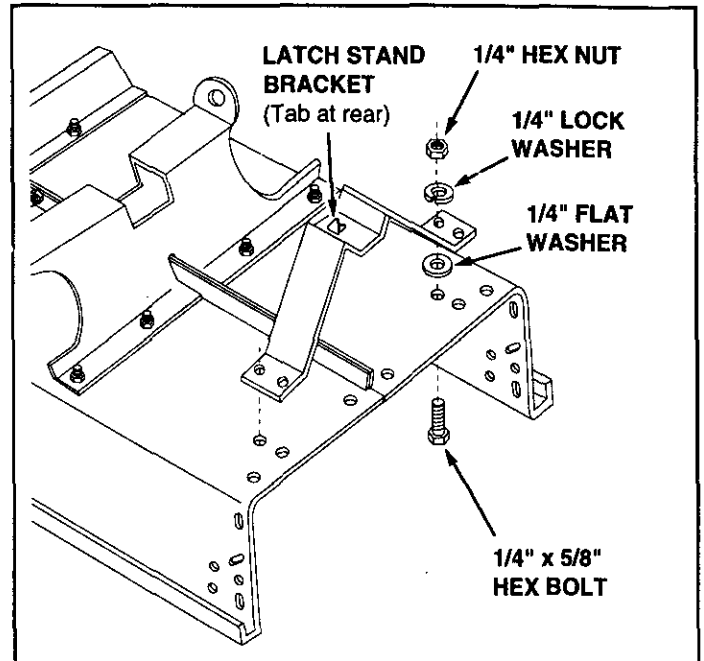

FIGURE 6
- Align the latch stand bracket so that the tab is at the rear. Fasten the bracket to the rear set of holes at the front of the cart using two 1/4" x 5/8" hex bolts, 1/4" flat washers, 1/4" lock washers, and 1/4" hex nuts. Use the 1/4" flat washers as shims between the bracket and the cart bed. **Make finger tight** at this time. See figure 6.
- **Tighten** the two bolts which were assembled to the latch stand bracket in figure 6.